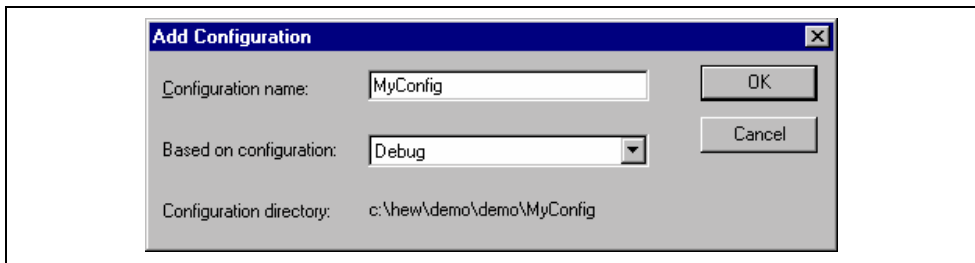

Figure 2.17: Add Configuration Dialog
2. Click the “Add..” button. The “Add Configuration” dialog will be invoked (figure 2.17).